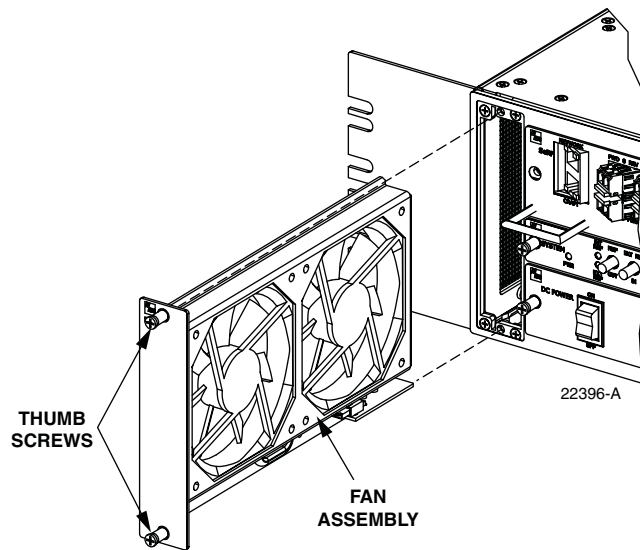

Figure 21. Host Unit Fan Assembly Removal
3. Loosen the two thumb screws that secure the fan/grill assembly to the front of the HU enclosure as shown in Figure 21.
6. Secure the fan/grill assembly to the front of the enclosure (see Figure 21) using the two screws loosened in Step 3.